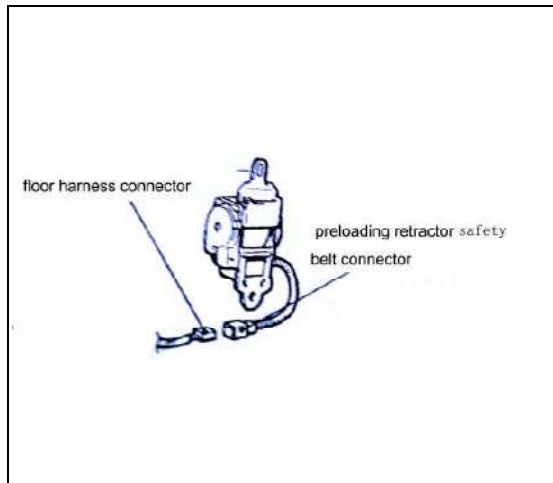
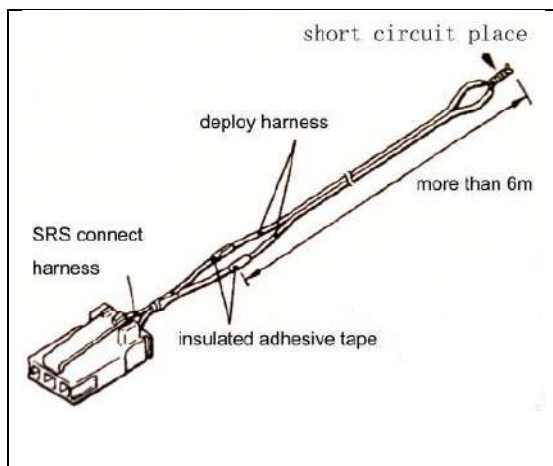
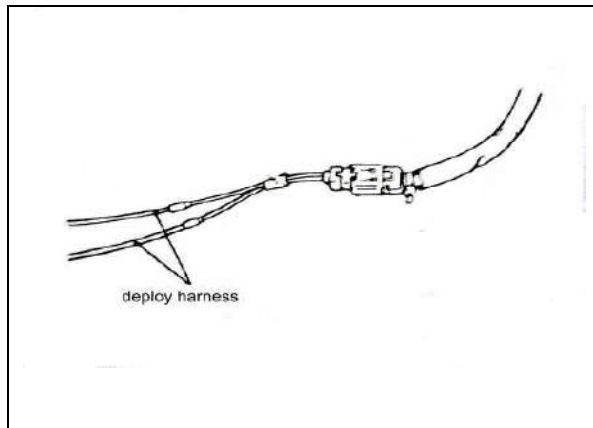
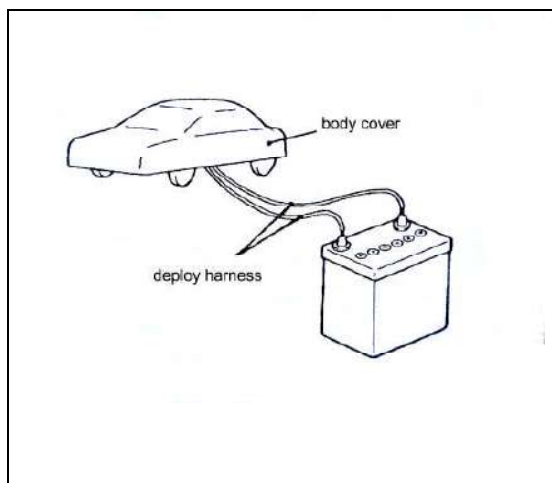

Fig 19-43
Fig 19-44
Fig 19-45
Fig 19-46
⑦ Discard the deployed air bag module according to Deployed Air Bag Module Disposal Procedures.
(3) Preloading retractor safety belt (See fig 19-43、fig 19-44、fig 19-45、fig 19-46)